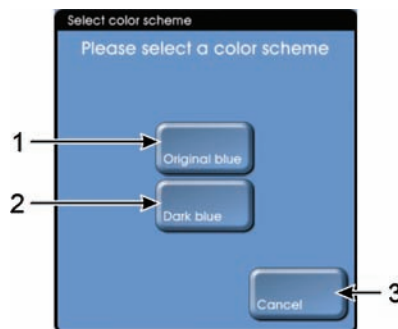

Figure 129: Select color scheme dialog box with Original blue (1), Dark blue (2) and Cancel (3) buttons
2. From the "Select color scheme dialog box" select either (see Figure 129):